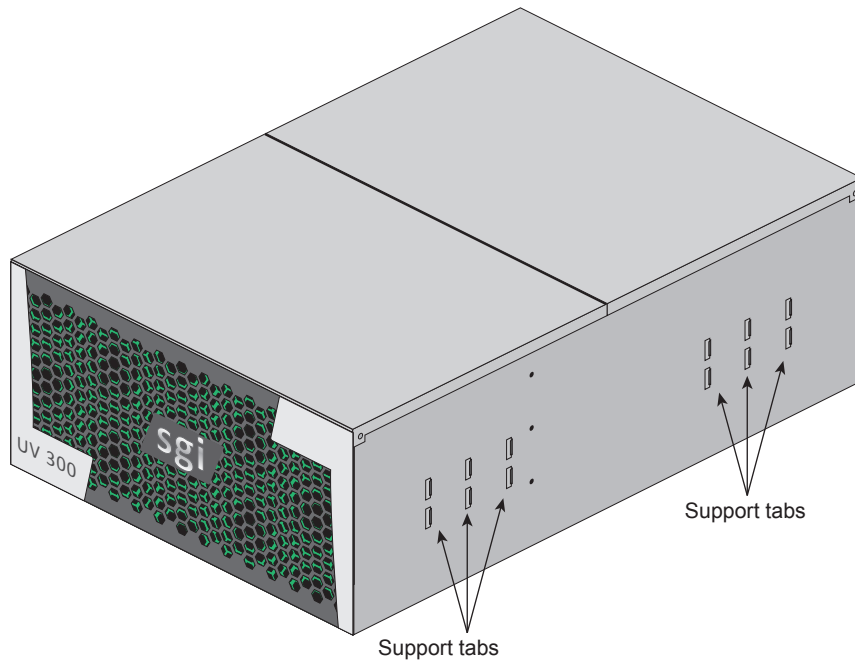

Figure 7-7 Support Tabs
2. Locate the six support tabs along the side of the chassis (see Figure 7-7 on page 86).